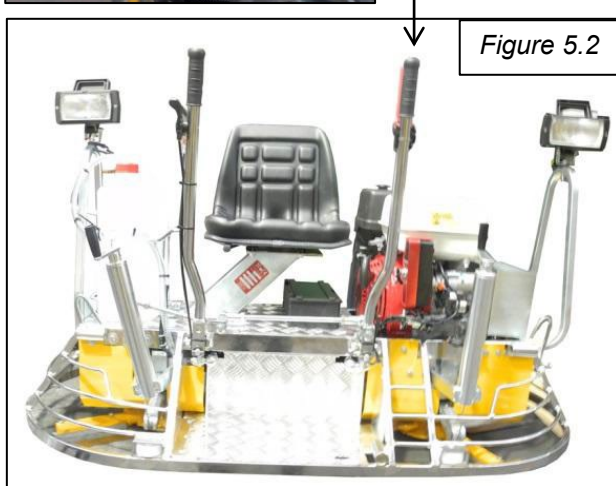

Figure 5.2
- The time between one troweling operation and the next one is determined by the weather conditions (cold or warm) and the amount of water present in the concrete. If the concrete has hardened too fast in some areas it can be moistened by spraying water through the appropriate button (fig. 5.2).